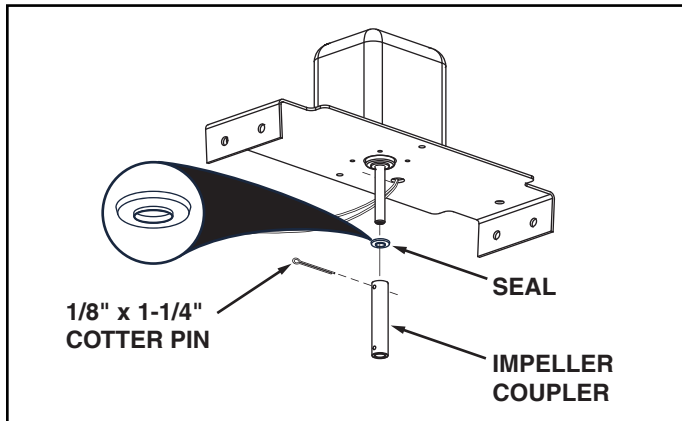

FIGURE 8
12. Assemble a seal (turned as shown in figure 8) onto the motor shaft. Slide it up against the motor.
13. Assemble the impeller coupler onto the motor shaft and secure it with a 1/8" x 1-1/4" cotter pin. Spread the ends of the pin around the coupler. See figure 8.